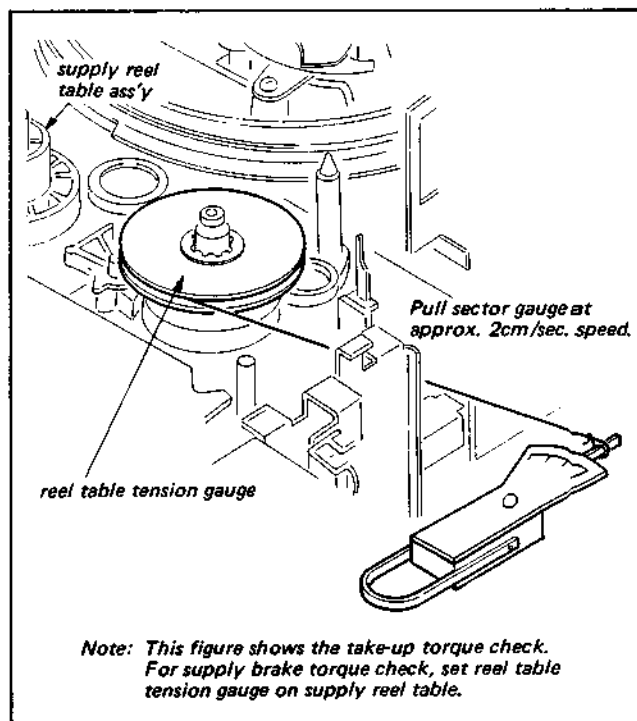

Fig. 3-41. Check of supply and take-up brake torque
- Attach the reel table tension gauge (Tool Kit Ref. No. J-5) to the take-up reel table as shown in Fig. 3-41 and hook the sector type gauge (100g full scale, Tool Kit Ref. No. J-8) to the end of the string. Pull the sector type gauge at a speed of approx. 2 cm/sec. and read the gauge value.